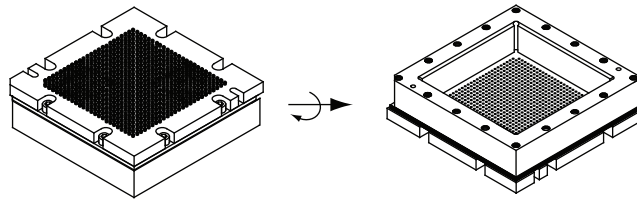

Figure 5 • View of Adapter Socket Assembly with Socket Housing Attached
3. Turn the ceramic adapter (with socket housing) over (Figure 5 on page 5).